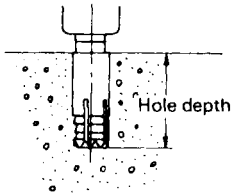

Fig. 7
- (2) Turn on the switch and drill a base hole with the self-drilling anchor. (Fig. 7)